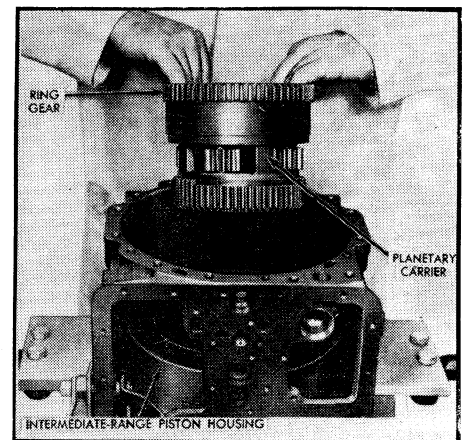

Fig. 11 Low ring gear and intermediate planetary carrier
33. Remove low ring gear and intermediate planetary carrier, Fig. 11.
34. Remove intermediate clutch piston housing after removing anchor bolt, Fig. 11.
10. Install low ring gear and intermediate planetary carrier, Fig. 11. Rotate assembly until planetary pinion teeth engage internal teeth of ring gear.